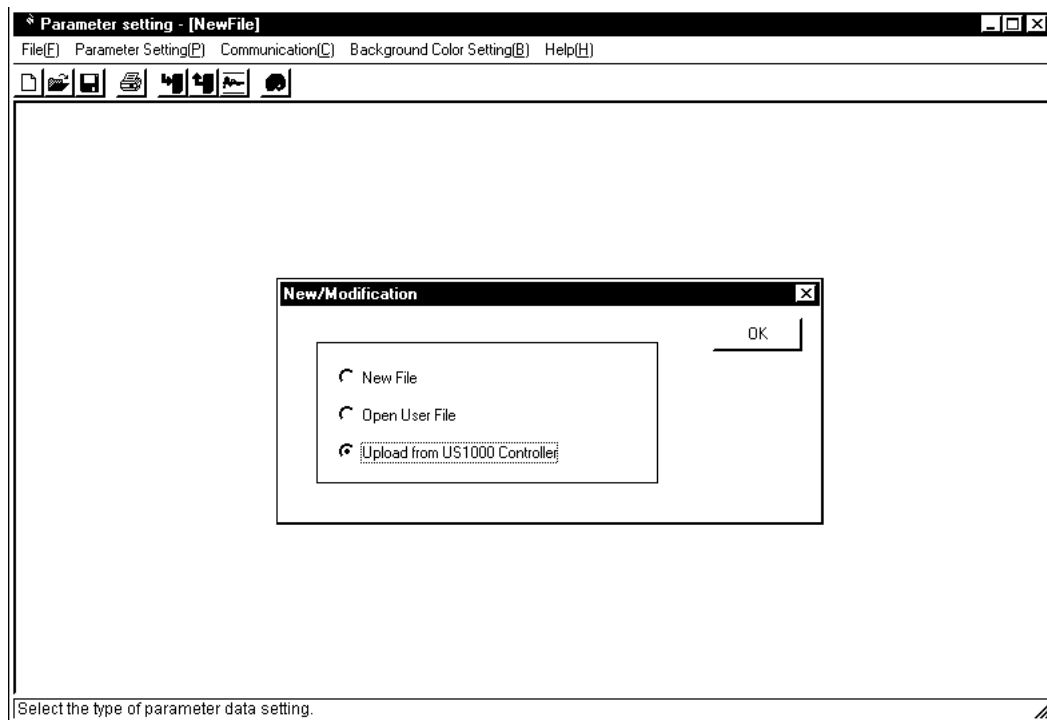

Figure 10.1.2 [Parameters Setting Tool] Dialog Box
- ① From the tool menus, choose <Custom Computation>, then <Start Parameters Setting Tool>. The [Parameters Setting Tool] dialog box (Figure 10.1.2) appears.